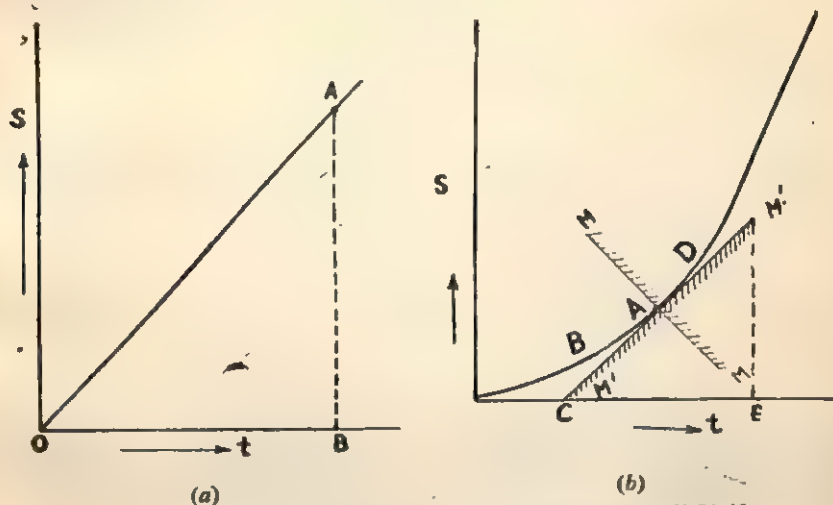
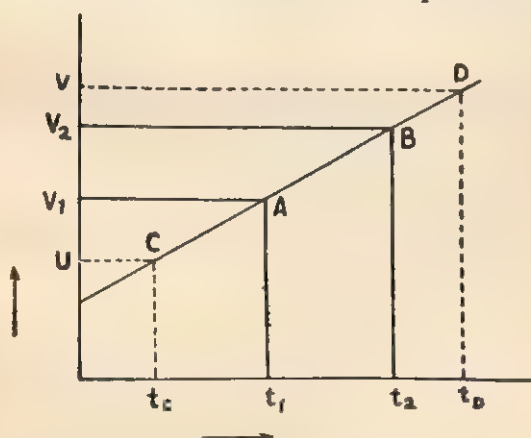

Fig. 8.1. Time-distance graph for (a) Uniform velocity (b) Uniform acceleration (variable velocity).
Fig. 8.3. Velocity-time graph from distance-time graph for an uniformly accelerated motion.
(i) **Uniform velocity.** The distance-time graph for such a case is given in Fig. 8.1 (a) which is straight line. Take any point *A* on the graph and drop perpendicular *AB* on the time-axis. *AB* represents the distance moved by the body in time *OB* and therefore :
(ii) *Variable velocity.* Fig. 8.1(b) represents the "distance-time" graph of a body moving with variable velocity. In order to find velocity at any instant represented by point  $A$ , a tangent to the curve at this point  $A$  is drawn as discussed below.
Take a strip of plane mirror and place it edge-wise such that its reflecting surface is over the point  $A$  in the position  $MM'$  as shown in Fig. 8.1(b). See the image of the portion  $AB$  of the curve in the mirror and adjust its position by rotating it about the point  $A$  such that the image of the part  $AB$  coincides with the portion  $AD$  of the curve. This will happen when the mirror is **perpendicular** to the curve at the point  $A$ . Mark the straight line  $MM'$  on the paper with the help of a sharp pencil along the edge of the mirror. Now draw a line  $M'AM'$  perpendicular to  $MM'$  at the point  $A$  with the help of the mirror or a protractor. This line  $M'AM'$  is the **tangent** to the curve at the point  $A$ .
(v) Plot a graph of distance *vs.* time as shown in Fig. 8.1(b) and from it calculate the velocities at different instants of time as discussed below. Finally plot a velocity-time graph as shown in Fig. 8.3.
(ii) Now draw a velocity-time graph with the quantities in the last two columns. This graph will be a straight line as shown in Fig. 8.3.
(v) Now take any two other points  $C$  and  $D$  on the graph of Fig. 8.3. Let the velocity at the point  $C$  be  $U$  and that at the point  $D$  be  $V$ . Note the time instants for these points as  $t_0$  and  $t_D$ . Let  $t_D - t_0 = t$ . Now substitute the values of  $U, V, t$  and  $f$  from equation (1), in the following relation